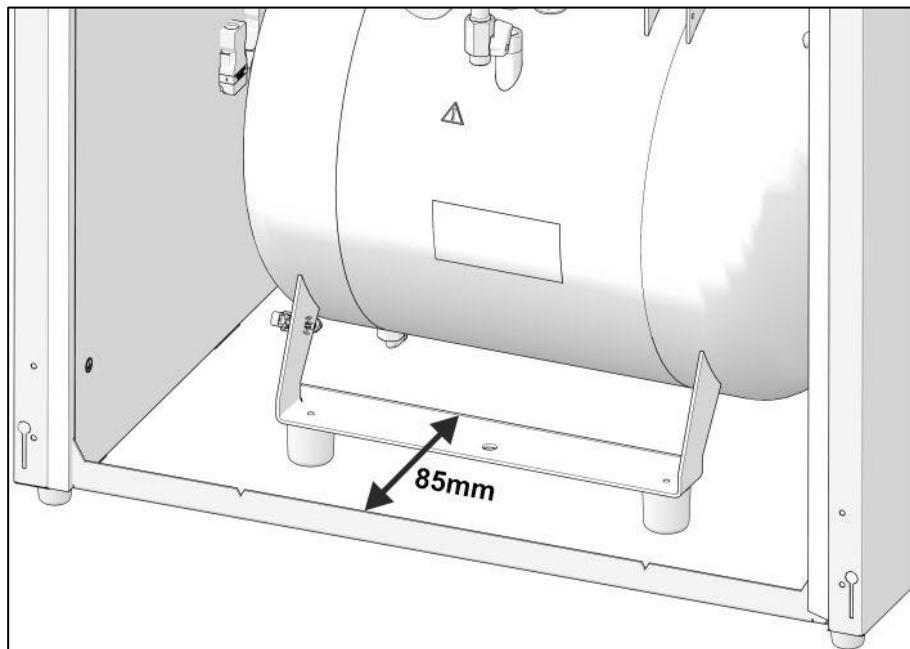

Fig. 16: Positioning of the DK50 2V/50/M compressor in the cabinet
- Check to ensure the compressor is fully inserted into the cabinet using the control dimension (Fig. 16).